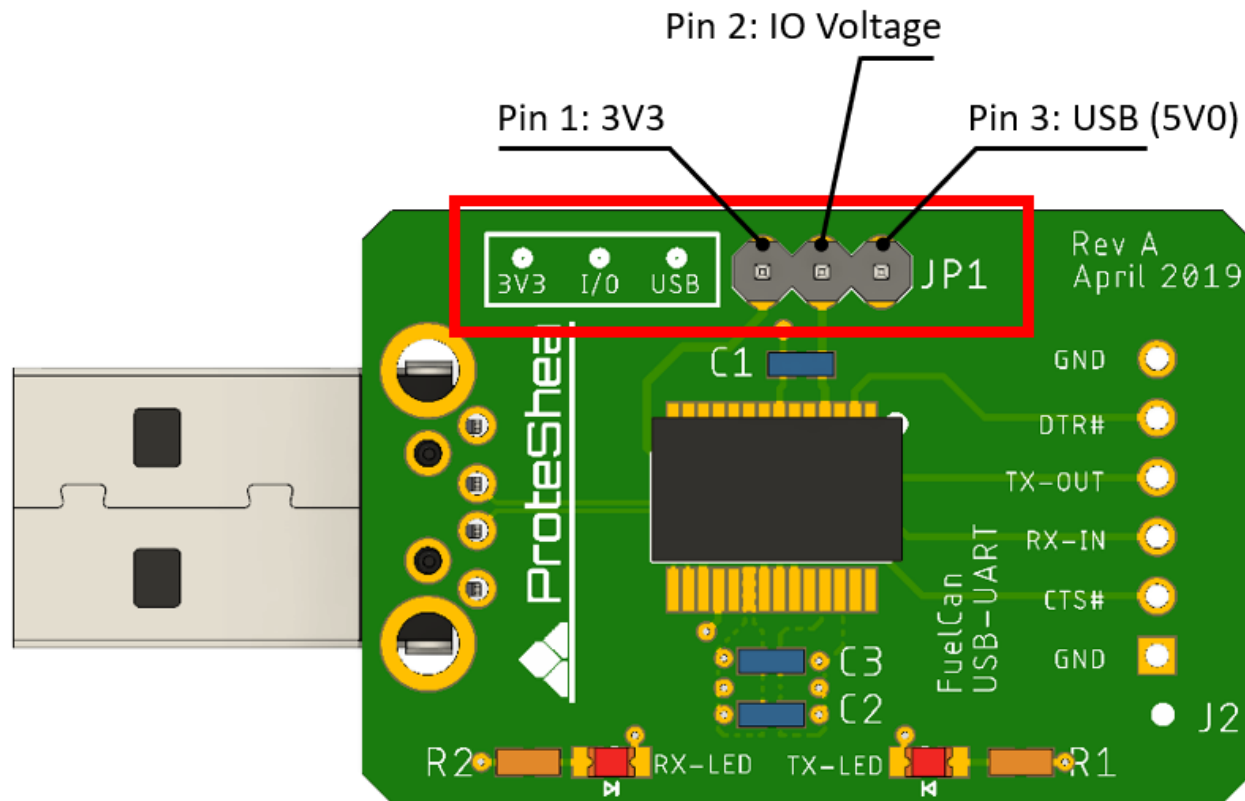

Figure 2. Selecting Desired I/O Voltage.
3. Use Fig. 2 to configure the desired I/O voltage (i.e. 3.3V or 5V) with the provided header shunt.